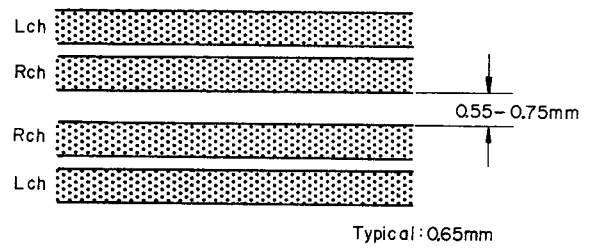

Fig. 4.16
- (i) Immerse the recorded tape in a magnetized developing solution. In turn, check to insure that the recording head tracks across the center are separated with a distance of 0.55 to 0.75 mm (typically 0.65 mm) as illustrated in Fig. 4.16.